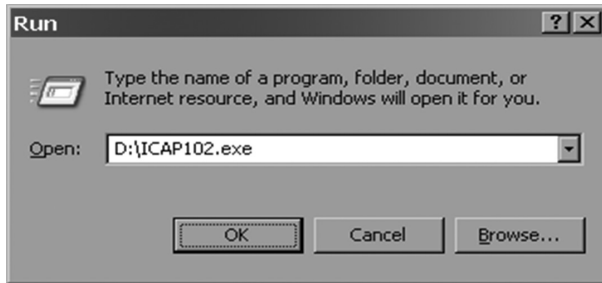

Figure 2-10 Run Window
3. Enter the drive letter assigned to your CDROM and the name of the installation program as shown in Figure 2-10.
Important: The drive letter assigned to your CDROM may be different from the one shown in Figure 2-10. Be sure to use the correct letter for your drive or the program will not start.